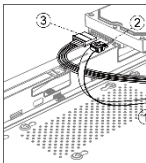

Figure 2-5 Connect Cable
Step 2 Connect the data cable and power cable. Refer to Figure 2-5.